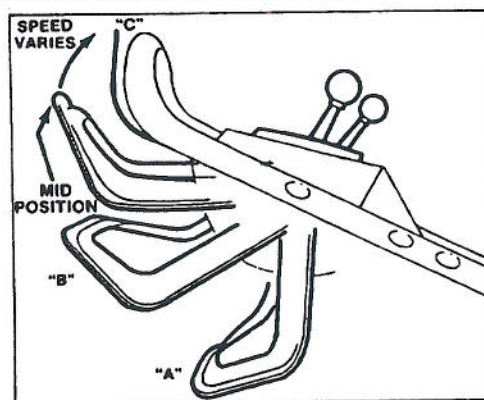

Figure 11
Note: For starting system break-in during first hour of operation, move control bar to position "A" (Fig. 11), then raise to mid position and hold while turning key.
6. **BLADE AND TRACTION OPERATION (Fig. 11)** — Move control bar down "A" and raise to engage blade "B". Move ground speed control to desired setting and squeeze control bar against handle "C" to drive. Ground speed varies, depending on space between control bar and handle. To disengage traction drive, but keep blade engaged, gradually release control bar to mid position. To self-propel with blade disengaged, simply squeeze control bar against handle, eliminating downward movement necessary for blade engagement.